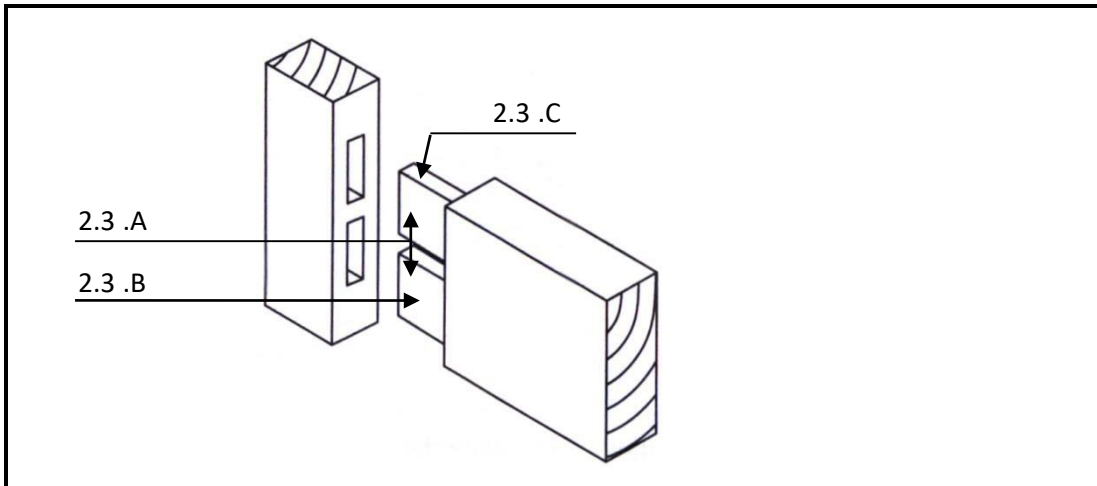

FIGURE 2.3
2.3 Answer the following questions on the joint construction in **FIGURE 2.3**.